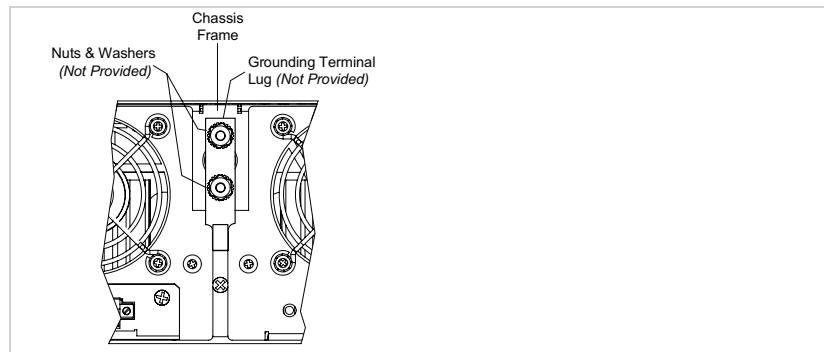

Figure 8: Chassis Grounding Hardware
3. If necessary, remove the chassis grounding assembly. See Figure 8.